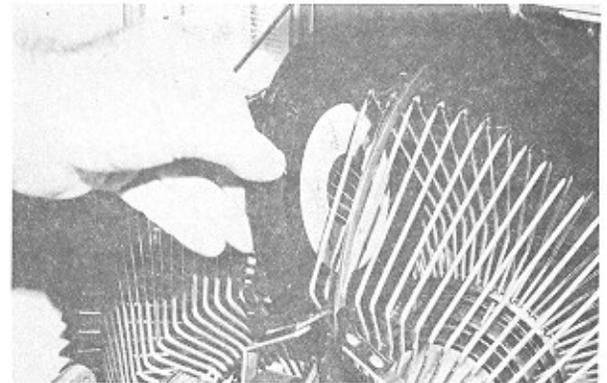

Figure 3-2. Changing a Record
4. Install records as shown in Figure 3-2.